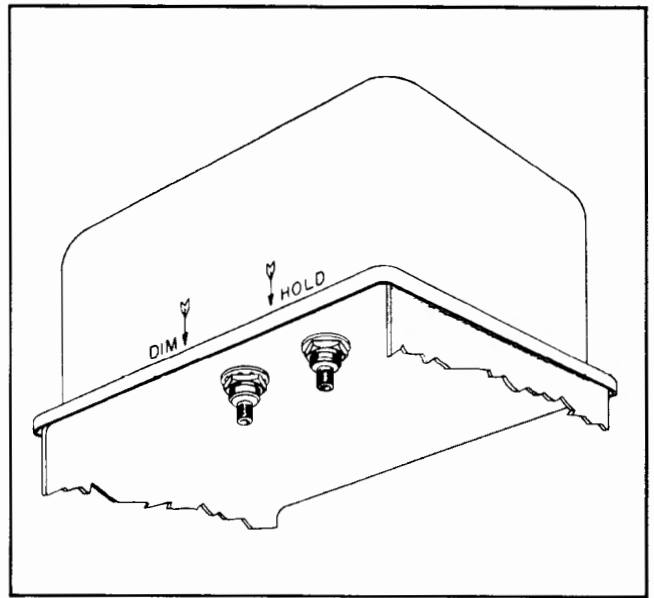

Fig. 14-24 Adjustment Controls on Amplifier
The hold and dim adjustments are knurled fingertip controls located on the bottom (outside) of the amplifier unit. The location of each is indicated by a stamp on the amplifier cover (Fig. 14-24). **NOTE:** The dim sensitivity adjustment must not be made until after the hold sensitivity is correctly adjusted.
1. Rotate dim control completely counter-clockwise (Fig. 14-24).